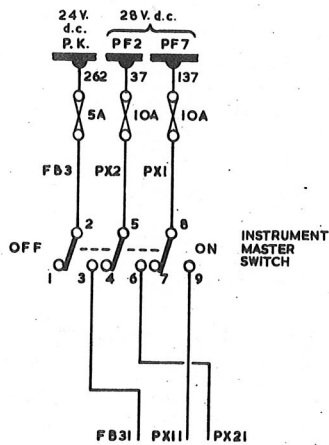
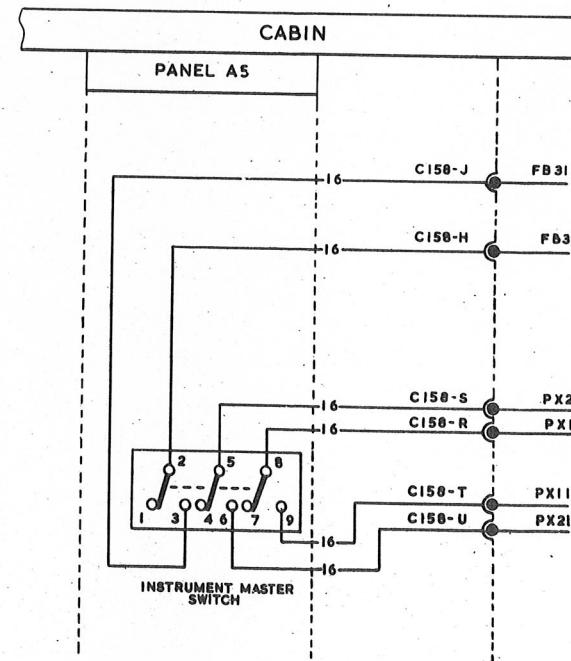

Fig.1. Alteration to App.1, fig.1 by Mod.4377
Fig.2. Alteration to App.1, fig.2 by Mod.4377
1. This modification provides a Type LHA 3-BG-201 instrument master switch, Ref.No.5CW/9916, in lieu of Type 7690/B101, Ref.No.5CW/8825, and affects the aircraft in the post Mod.4302 state (App.1). The alterations to Appendix 1, fig.1 and fig.2 are shown in fig.1 and fig.2 below.